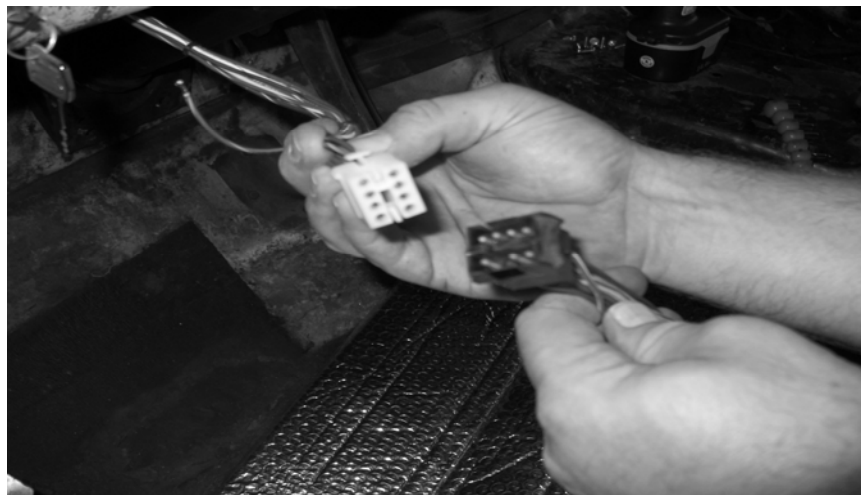

Figure 7-14 Early Model ('67-'72) Turn Signal Connection
7.6.1 When wiring 1967-1972 Model Trucks the original Turn Signal Switch Connector will plug directly into the new Turn Signal Connector in the Under Dash Section. **See Figure 7-14. Note: If using a Tachometer, notice the TACH signal wire is in the Turn Signal breakout of the harness.**